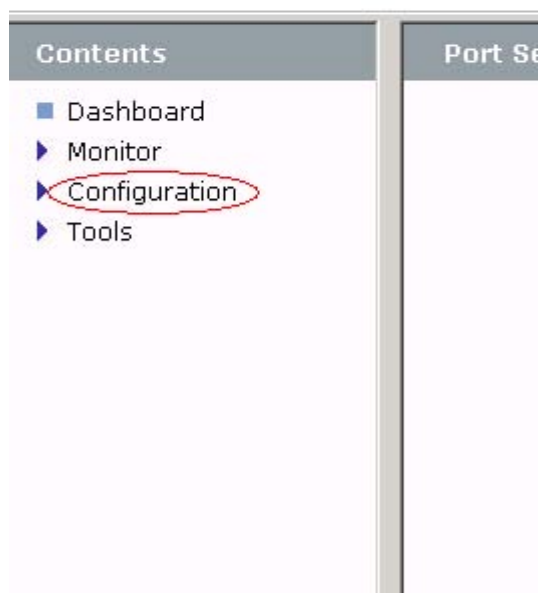

Figure 40 Switch web page
2. Click the Configuration link in the left frame of the web page.(Figure 40).